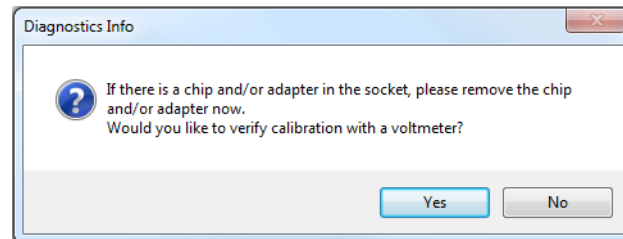

Figure 5: Diagnostics Info
11. During the test, the **Diagnostics Info** window appears, as shown in Figure 5.